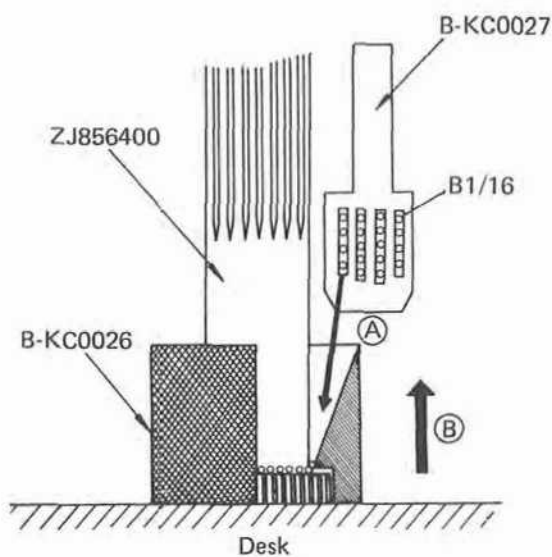

Fig. 4-11
- a) Place Pinion ZJ856400 on Jig B-KC0026. (See Fig. 4-11.)
- b) Insert 30 Balls B1/16 in Jig B-KC0027 (30 balls can be arranged with no gaps in the grooves.) (See Fig. 4-11.)
- c) Drop the Balls in the direction indicated by arrow (A) by pushing them with tip of a Tweezers and arrange them neatly around the Pinion. (See Fig. 4-11.)
- d) While taking care not to disturb the Ball arrangement, remove Jig B-KC0026 in the direction indicated by arrow (B). (See Fig. 4-11.)